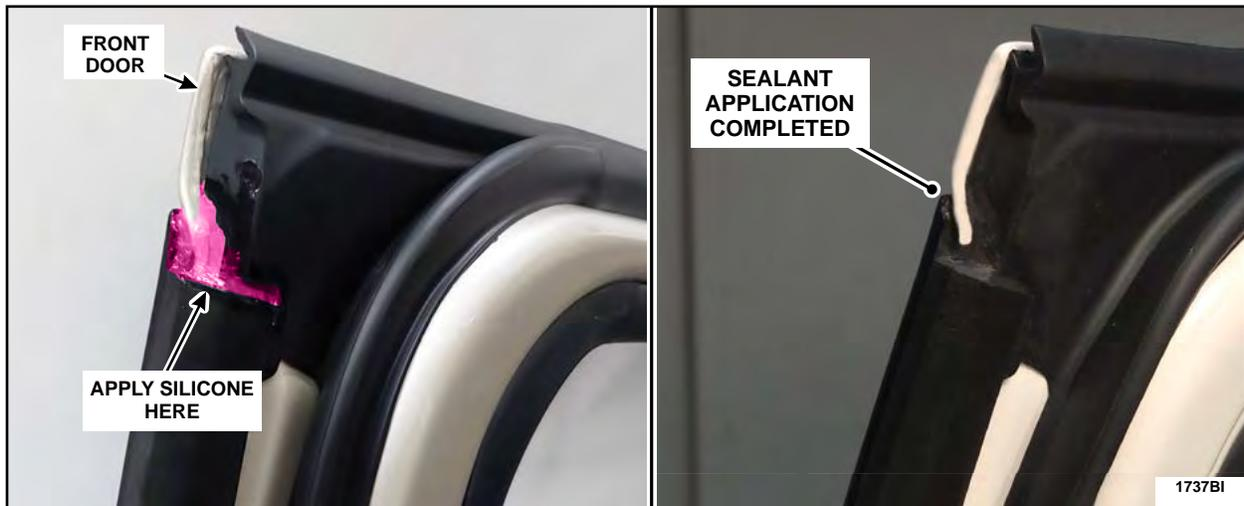

FIGURE 28
18. Using isopropyl alcohol clean the top portion of the door and then neatly apply Motorcraft® TA-30 silicone sealant to the indicated/highlighted area in order to completely fill the gap as shown in Figure 28.